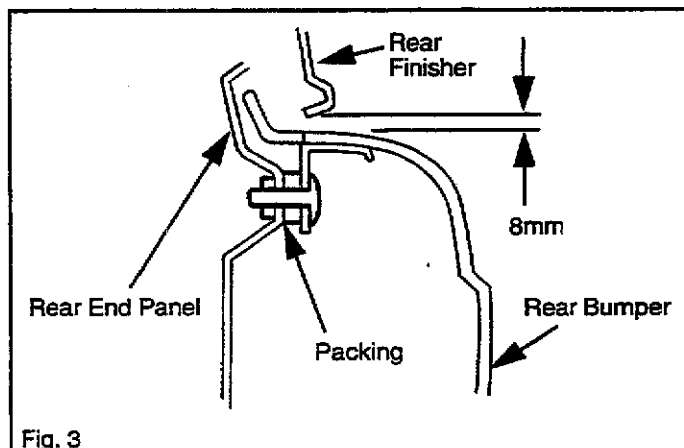

Fig. 3
- Use a piece of packing (see Parts Information) for spacing the bracket from the rear end panel. Refer to Fig. 3.